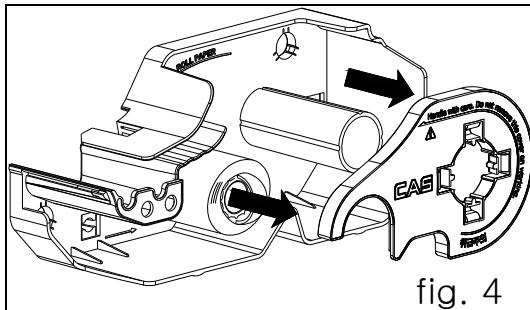

fig. 4
4) Remove Pick-Up Spool assembly and paper guide from the cartridge as fig. 4.